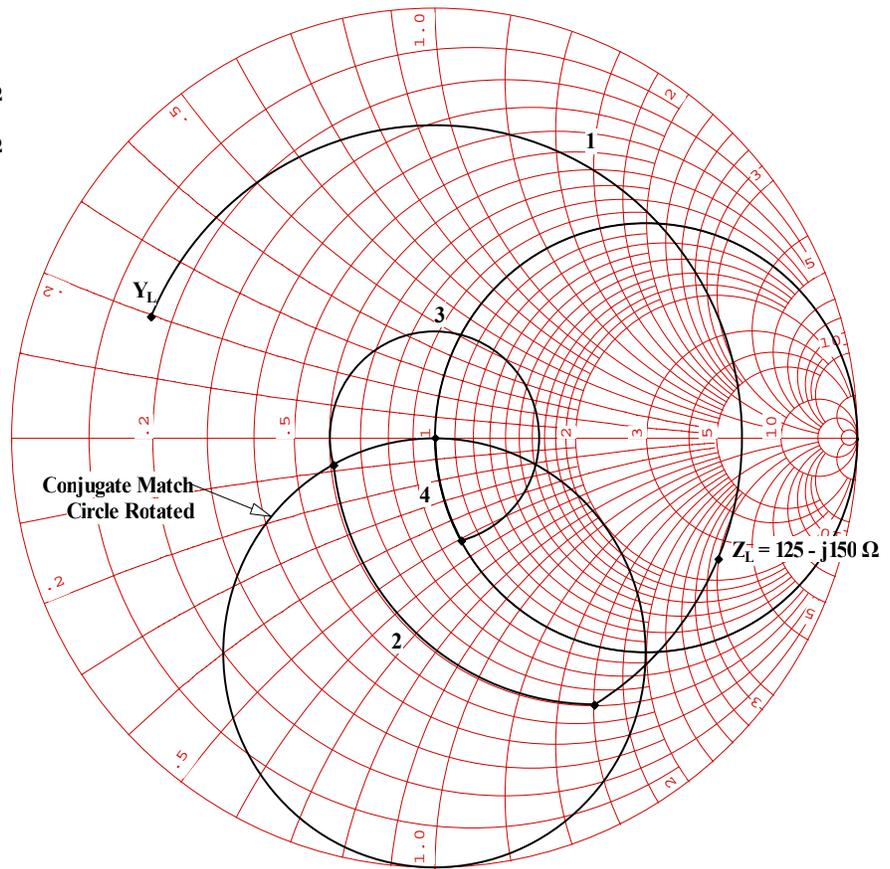

Figure 3.9a
3. Next, select **Micro-strip Match... Series Line...** under the Functions menu, and depress the enter key. Move the small cursor to the right along the VSWR circle until the read out in the upper left hand corner reads *series-Line=0.300*. This is shown as point 1 in figure 3.9a.